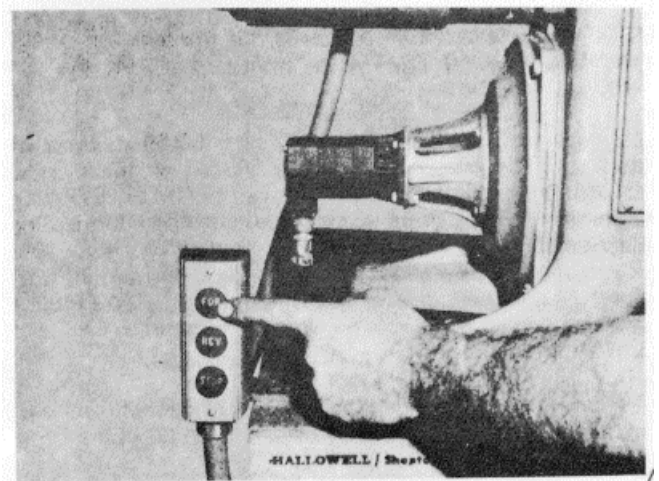

Figure 16G-72. Starting 60 Cycle Motor
14. The ST-848 Test Stands with 60 cycle current require only that the reverse or forward start button be pressed depending on right or left hand pumps, Figure 16G-72.
15. The ST-848 Test Stands with 50 cycle current requires a change in motor brush location to reverse motor for left hand fuel pumps, Figure 16G-73. Rotate cover shown to position required by loosening two cover screws.